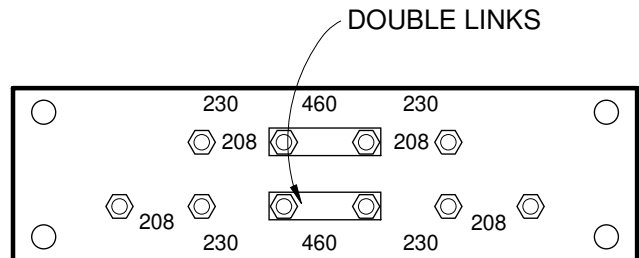

Figure 2-2. Input Voltage Terminal Board (TB) Connections
- B. As shipped, the power source is set up for 460-volt input power. If using 208- or 230-volt input, two links on the input terminal board (located inside the power source) must be repositioned as marked on the plate (see Figure 2-2). The input terminal board connections will be visible after removing the top cover.
1. Make all secondary output connections to the power source output receptacles as described in section 2 (see Figure 2-2) and as shown in the appropriate wire feeder and/or control instruction booklets.
2. Make the necessary control connections to receptacle J1 as described in section 2 (see Figure 2-2) and J2, if necessary. Make sure that FC-5B